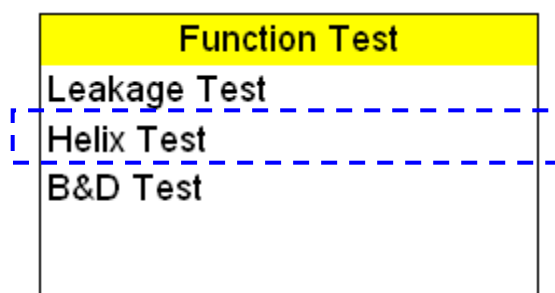

Figure 99
- D. Press  or  button to select Helix Test program (Figure 99).